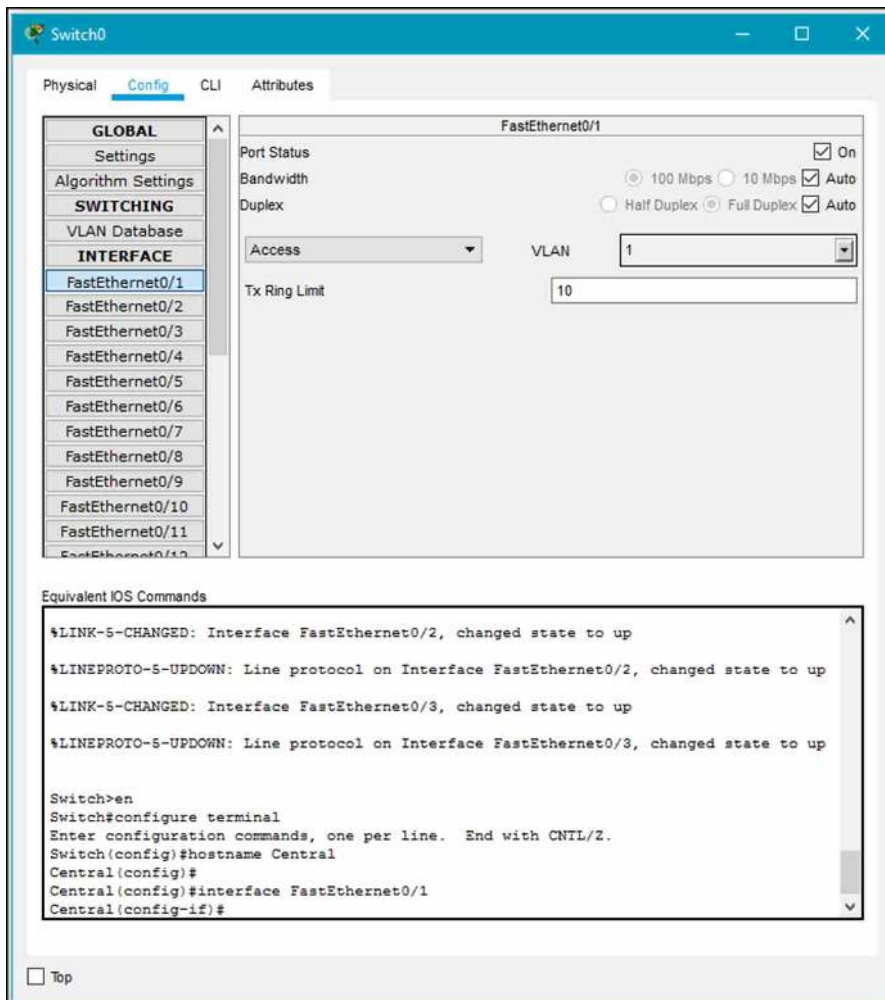

Figure 3.7: Switching to the CLI Tab in Cisco Packet Tracer
- As shown in Figure 3.7, these steps replicate actual commands you would type on a Cisco switch.